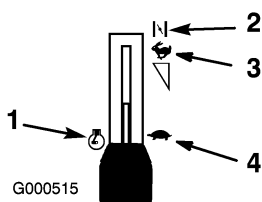

Figure 8
3. Move the throttle lever to Choke before starting a cold engine (Figure 8).
- After the engine starts, move the throttle lever to Fast (Figure 8). If the engine stalls or hesitates, move the throttle lever back to Choke for a few seconds. Then move the throttle lever to the desired setting. Repeat this as required.
- Move the throttle lever to Fast (Figure 8).